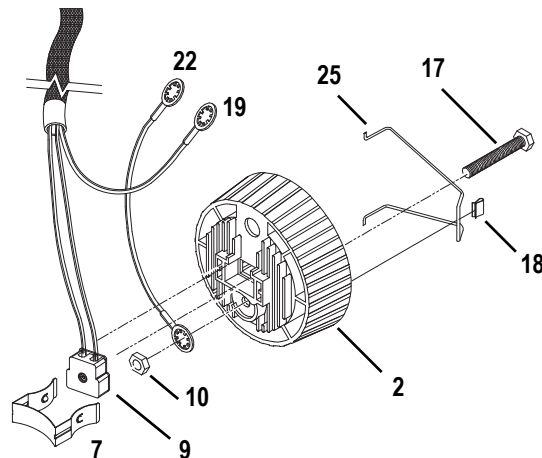

Figure 4
- Step 3: Insert the bolt (17) through the light baffle socket casting (2). See Figure 4.
- Step 4: Install the green ground wire assemblies (19 and 22) on the bolt (17) with the prongs on the crimped connectors toward the casting. Run both wires through the indent in the lip around the bolt hole. Secure with nut (10) and tighten securely (60 inch pounds).
- Step 5: Place the socket assembly (9) into the light baffle socket casting (2). Be sure it is well seated.
- Step 6: Install the lamp retainer spring (7). The lamp retainer spring secures the socket. Insert the spring one end at a time, making sure the rectangular slot in each side of the spring seats on the corresponding tab in the casting. See Figure 4.